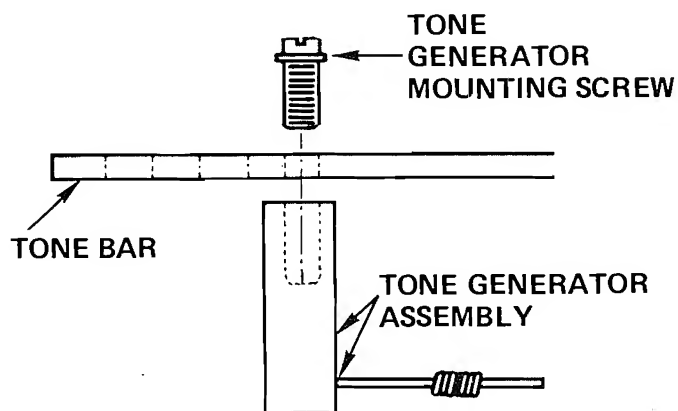

Figure 6-1. Tone Generator Removal/Replacement
2. Remove the Tone Generator Mounting Screw (Figure 6-1) using the 5/16" (7.938mm) wrench.